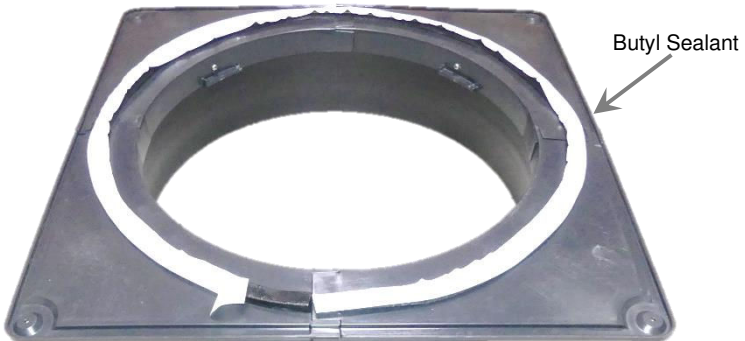

Figure 12
- 11.) With the white tape upward, apply the remaining butyl sealant rope around the groove on the bottom of the base flange, overlapping and kneading the ends of the butyl rope together (Fig. 12). Remove the white tape from the sealant rope and discard the tape.